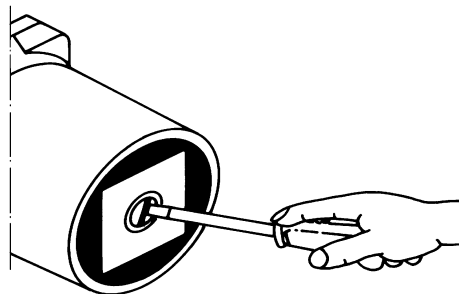

Fig. 3
- When venting the pump (see fig. 3), it could result in a slight escape of hot water or steam!
removing the plug positioned in centre of nameplate (see fig. 3) This process should be repeated periodically until all air held in suspension in the system water has been removed.
Smedegaard's IsoBar range of glandless pumps are virtually maintenance free and in a well designed system should give many years of operation. If motor shaft is seized as a result of pump standing for a long period without use or by a limited accumulation of magnetite or other impurities, it should be freed. Insert a screwdriver through vent plug hole into the slot in the end of the shaft and rotate (see fig. 3).